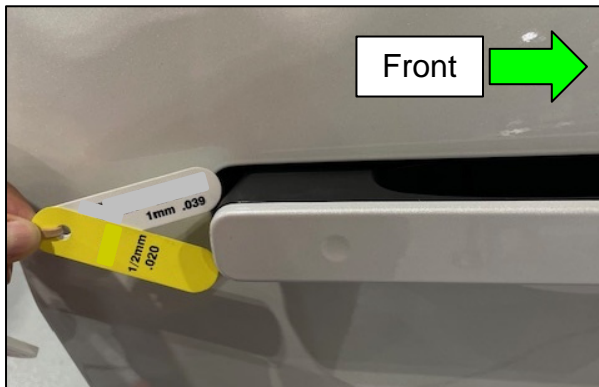

Figure 31
- Carefully attempt to insert a 1.5 mm Non-metallic Clearance Measurement Gauge approximately 4mm into the rear gap between the Outside Door Handle and Door as shown in Figures 31 and 32.